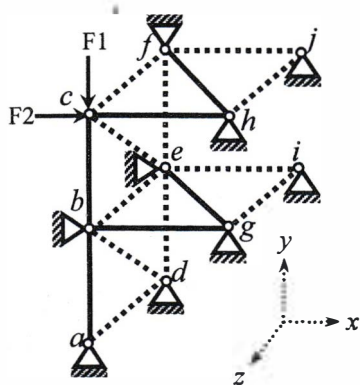

Fig.1
- Ignore zero-force members of the space truss *abcdefghij* shown in **Fig.1** and apply boundary conditions to formulate stiffness matrix and load vector